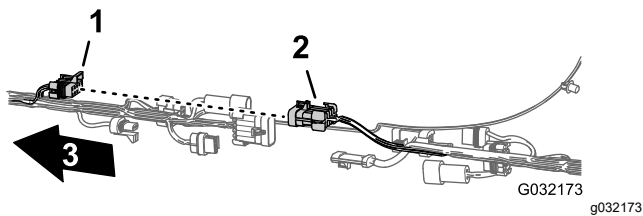
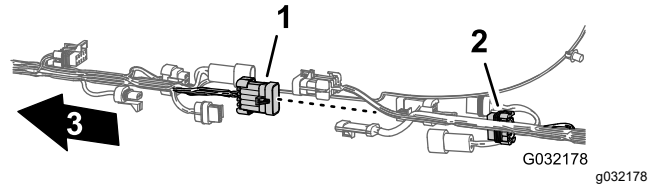

Figure 8
Figure 13
2. Disconnect the 6 pairs of connectors between the front and rear wire harnesses as shown in Figure 8 through Figure 13.